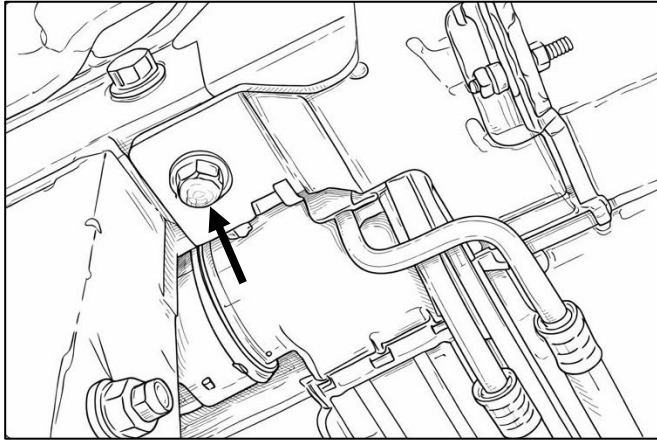

Figure 13: Underside Mounting of Winch Tray
17. ☐ Reinstall the factory bolt to the underside of the WINCH CRADLE, apply thread locker but do not torque at this time. **See Figure 13.**